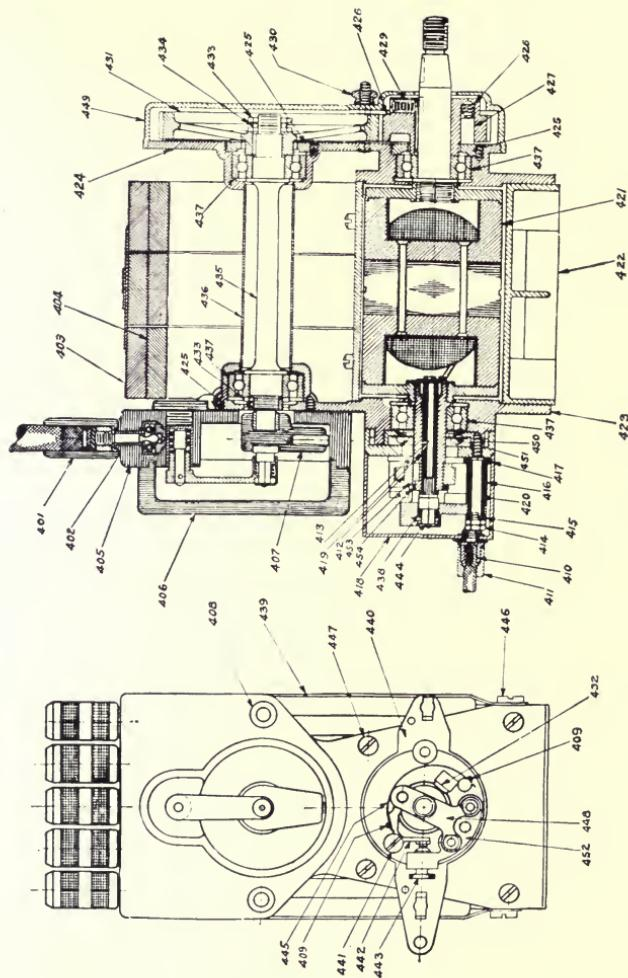

Fig. 50.
**49d. G. E. magneto.** (See Fig. 50; for G. E. Transformer Coil see Par. 49e.)